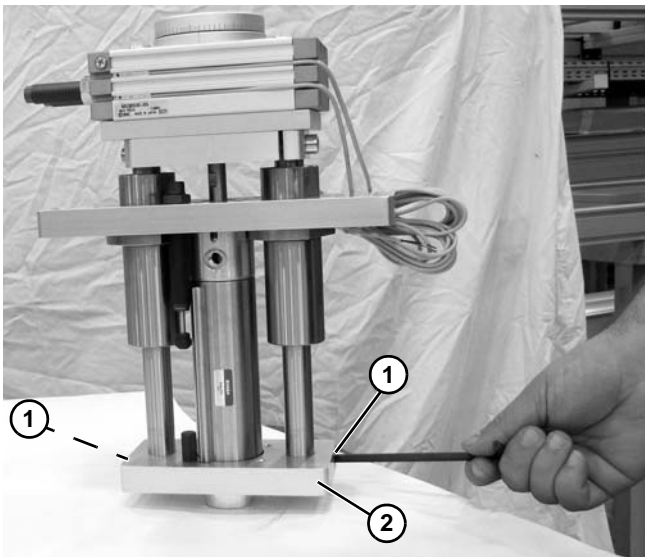

Figure 18
1. To adjust stroke, loosen screws (**Figure 18, item 1**) on bottom plate (**Figure 18, item 2**).